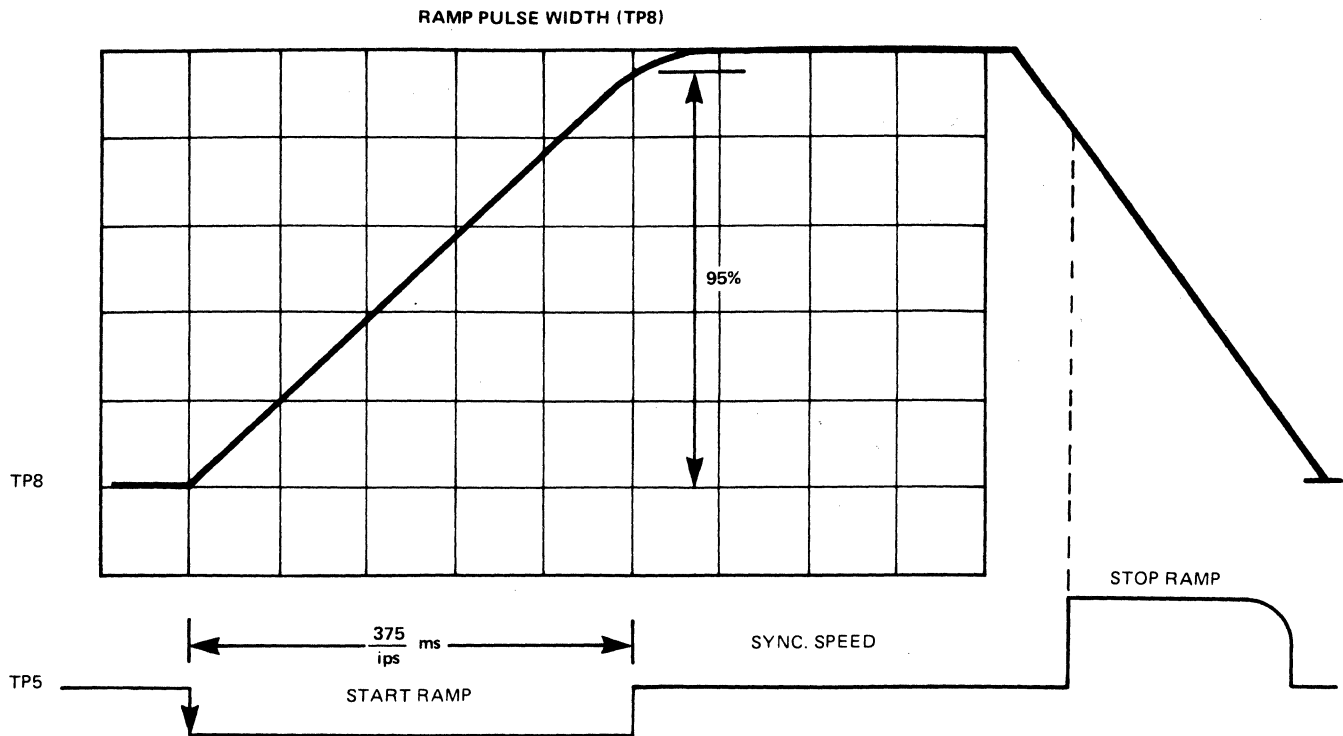

Figure 5-2. Forward Ramp Waveform
- b. Initiate a forward-stop tape sequence using either the Tape Transport Exerciser or maintenance switch SW1. Observe the oscilloscope display. (See figure 5-2.)